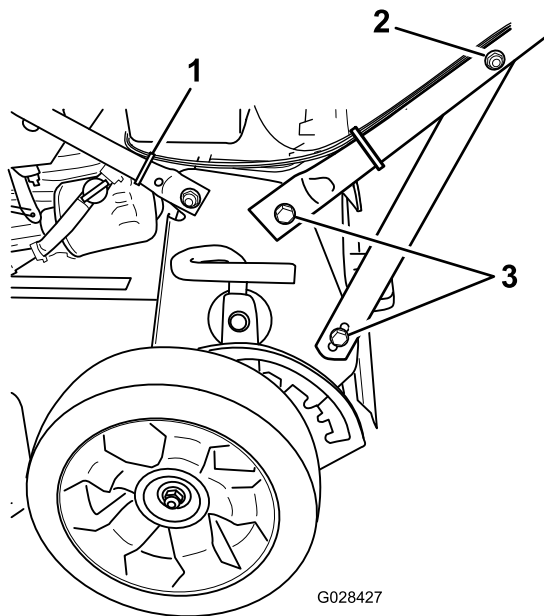

Figure 5
4. Tighten the fasteners that support the handle on both sides of the machine as shown in Figure 5.
2. Nut on handle support bracket (2)
3. Bolt (4)
5. Install a cable tie to secure the cables to the lower handle in the location shown in Figure 5 and trim off the excess material from the tie.